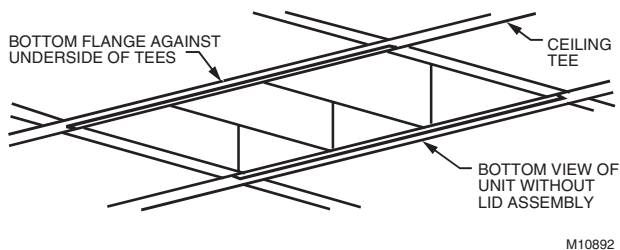

Fig. 5. Fasten cabinet to a structural support.
4. Use the four 3/8 x 16T internal nuts (one at each corner) to fasten the cabinet to a structural support (bar joist, concrete slab or timber framing). See Fig. 5.